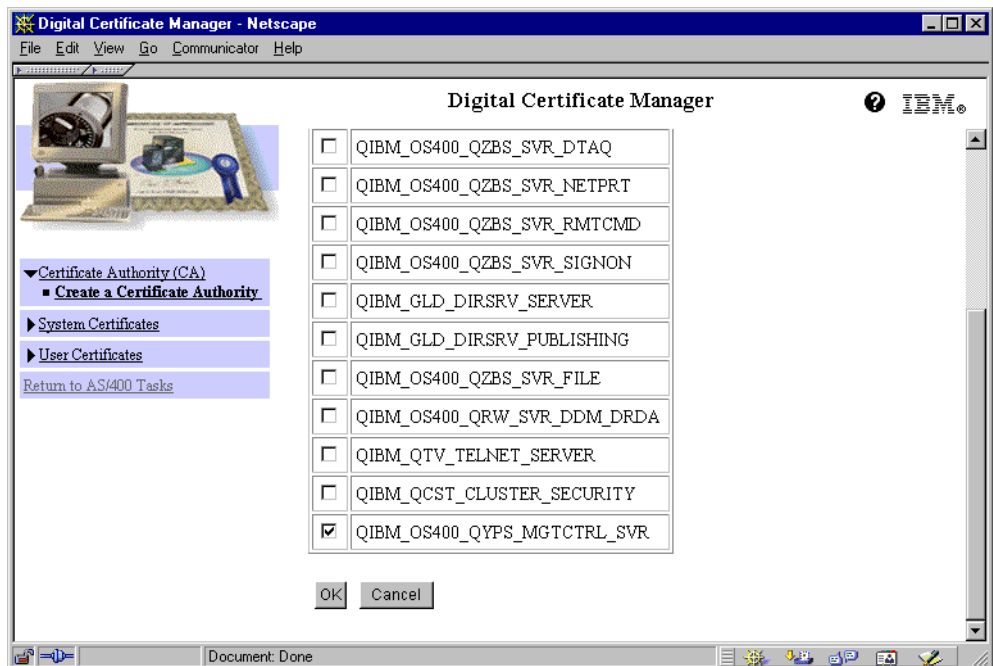

Figure 162. Secure application selection
- c. As shown in Figure 162, select **QIBM_OS400_QYPS_MGTCTRL_SVR** as an application that trusts this CA. Then, click **OK**. The CA is now created. You must create a system certificate for this system.